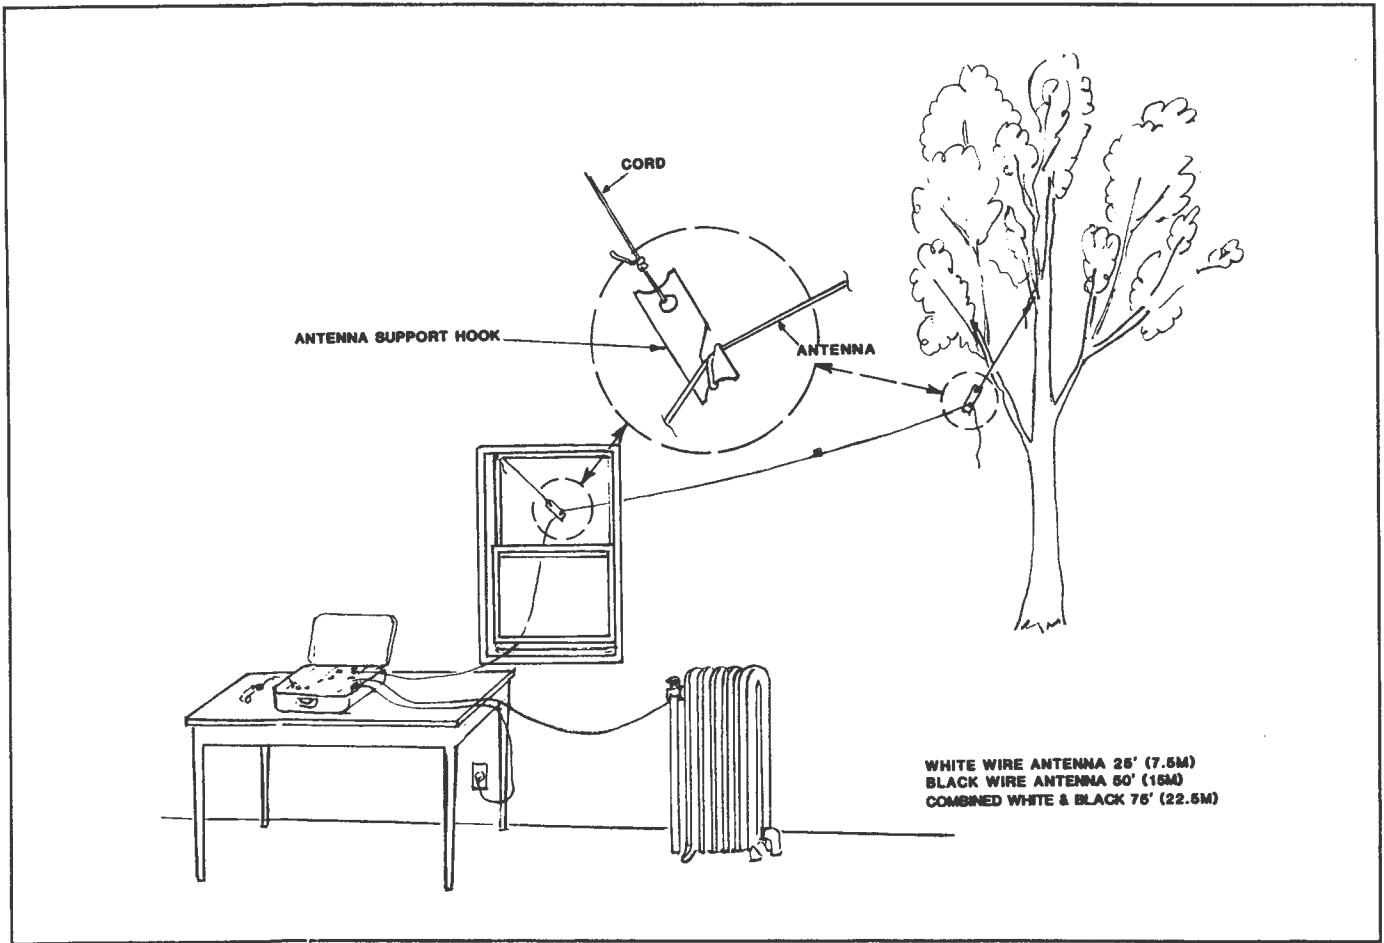

FIGURE 4-3.
b) **Location**—Since the entire antenna radiates, it is important to keep it clear of all obstructions and as high as possible. Remember, the antenna radiates beginning at the connection on the transceiver. If the first part of the antenna is close to obstructions, much of the radiated energy will be absorbed. In a hotel room or building, the transceiver should be located right at the window, as a ferro-concrete building will provide almost complete shielding. See the transceiver installation example, Figure 4-3. It is also important to keep the antenna as far away as possible from noise sources, such as power lines.